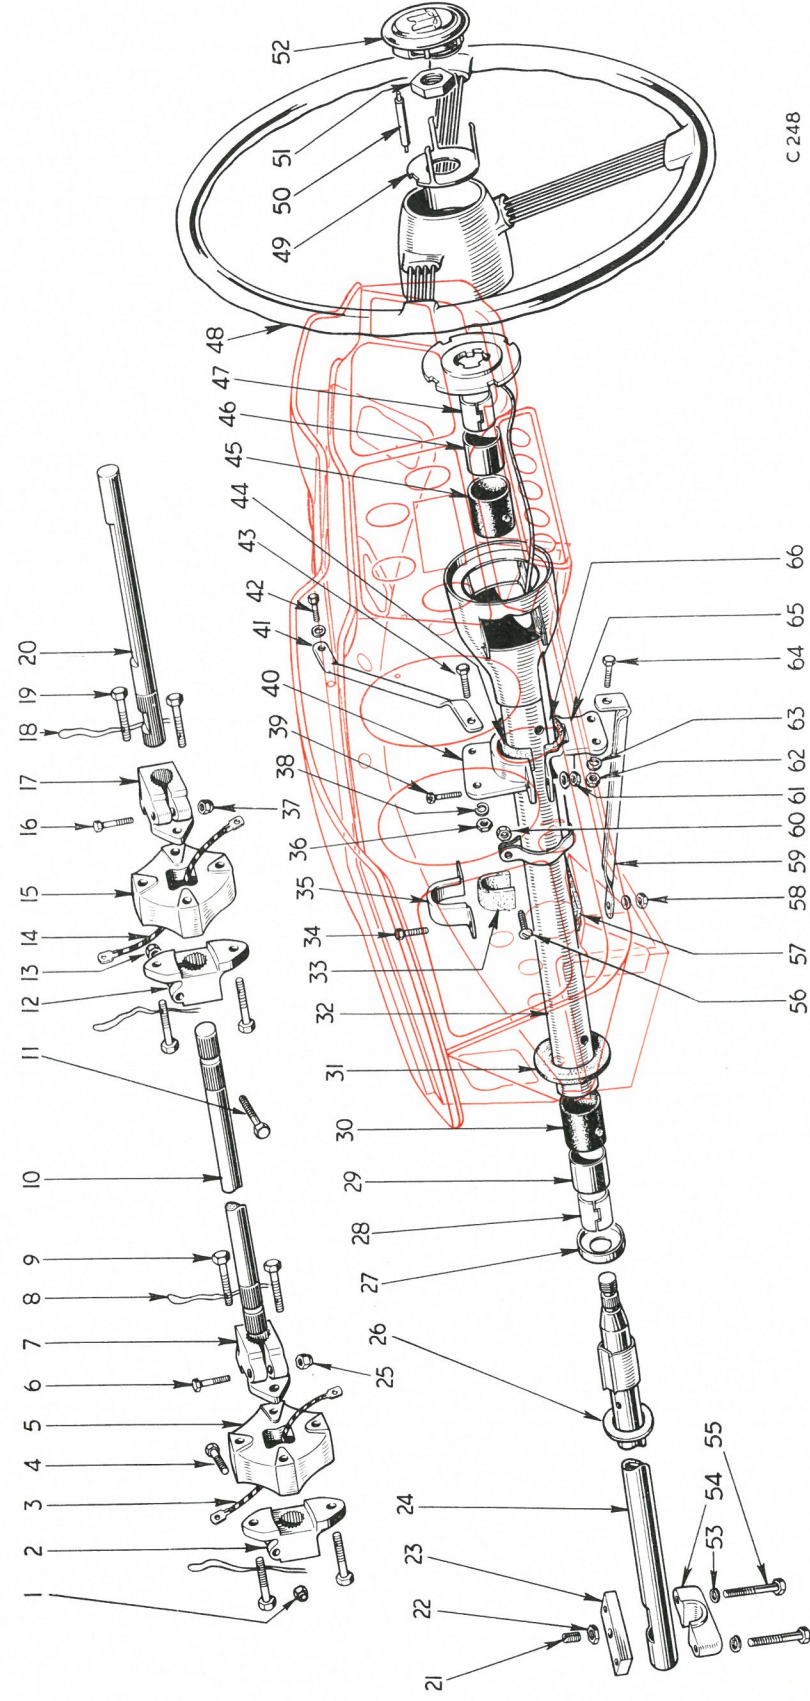

Fig. 12. Steering Column Details
KEY TO FIG. 12
Removal (Fig. 12)
Insert the horn contact plunger (50) into the steering wheel boss and fit the horn button assembly (52) (Fig. 12).